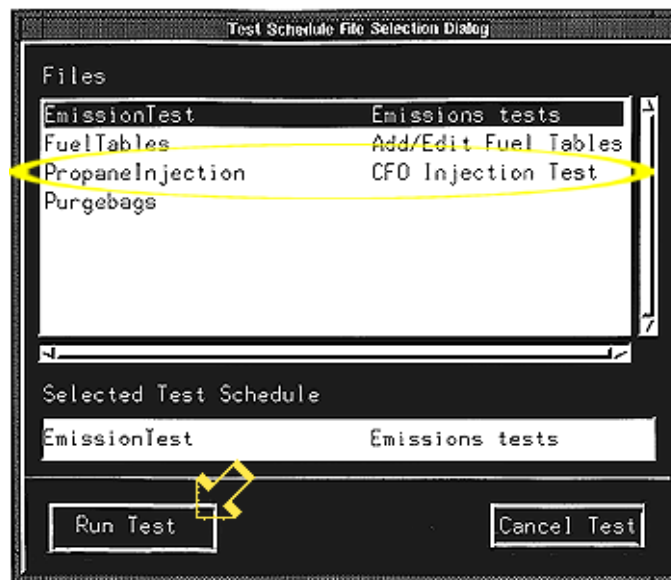

Figure 6
- 104 From the list of files on the CDTCS computer "Test Schedule File Selection Dialog" screen, highlight "Propane Injection." See the Circle in Figure 6. Click on "Run Test." See the arrow in Figure 6.